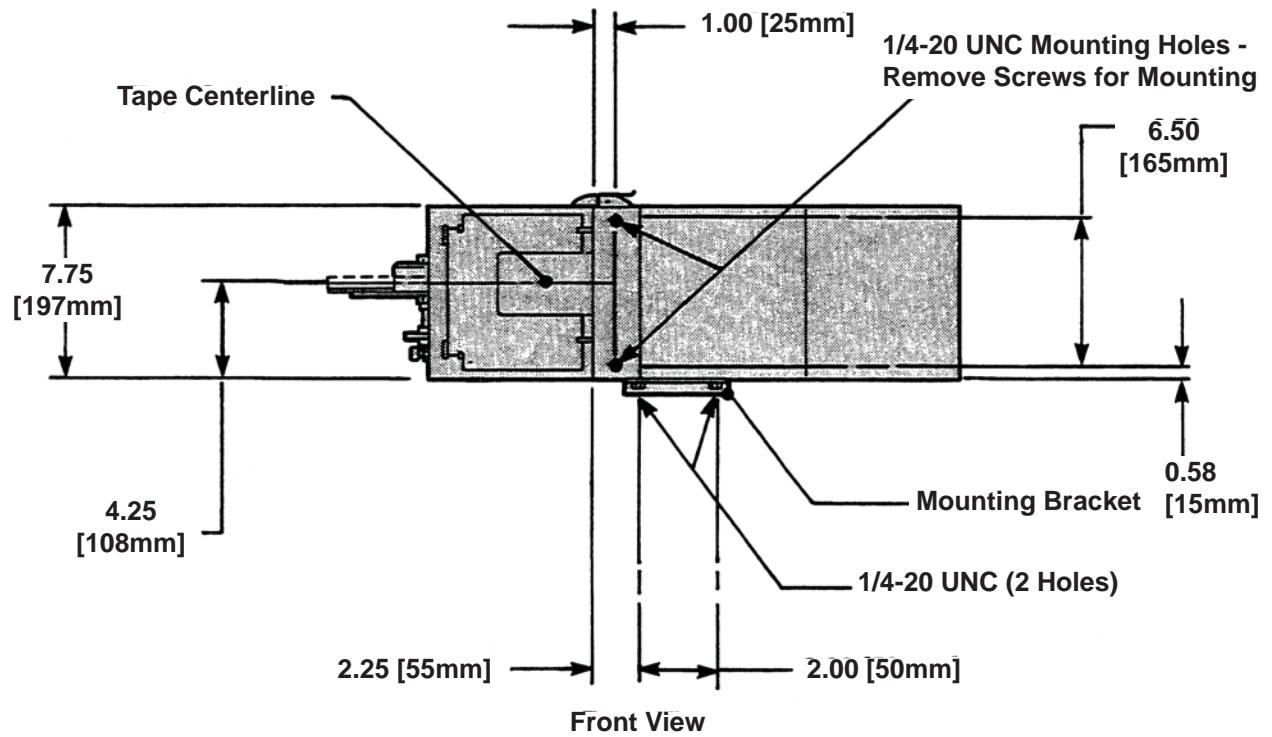

Figure 5-2 Mounting Side Taping Position – Front View
**Side Taping Position** – Shown in **Figure 5-2**. For application of a tape seal to the end of a box.